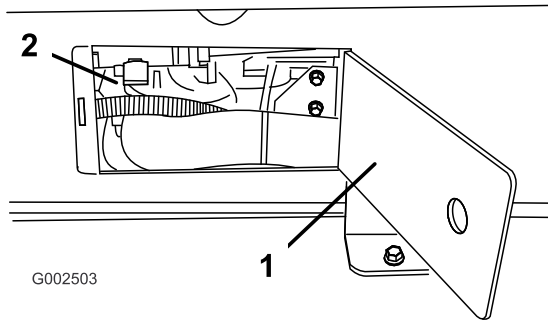

Figure 22
11. Use the access panels on both sides of the tank skid to check for pinching of any hoses or wiring (Figure 22).